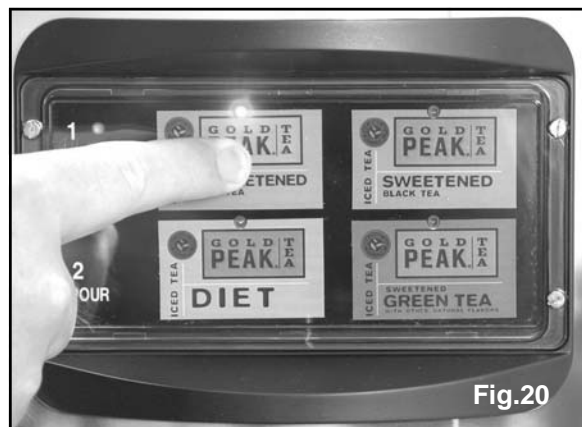

Fig.20
2. Touch the desired brand key (Fig.20). (brand light will illuminate and brand selection will remain active for 5 seconds)